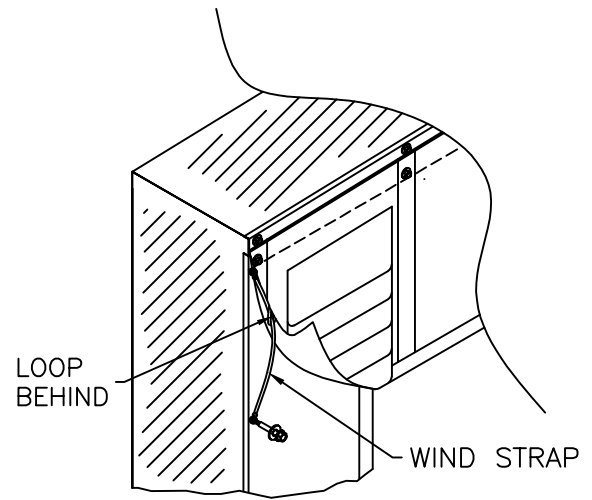

FIG. 20
- Thread Wind Strap through Header Curtain (**Figure 20**).